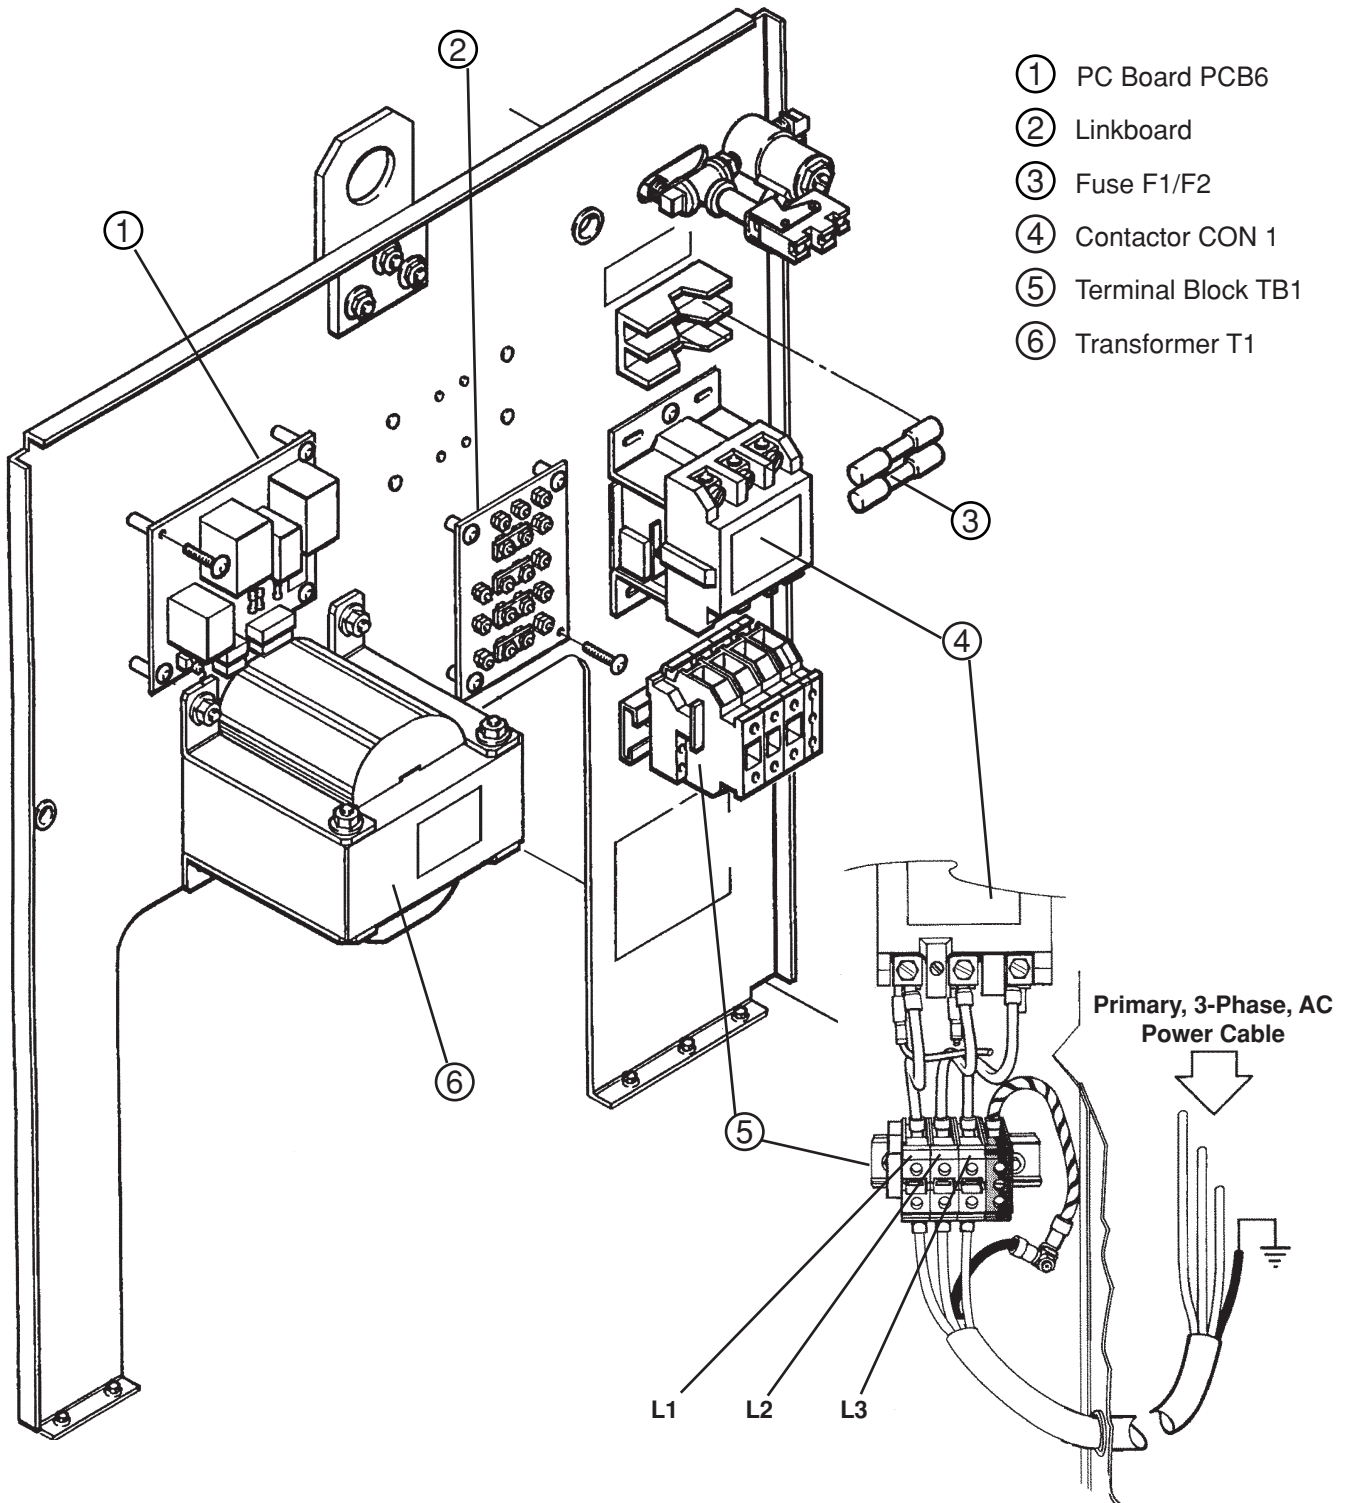
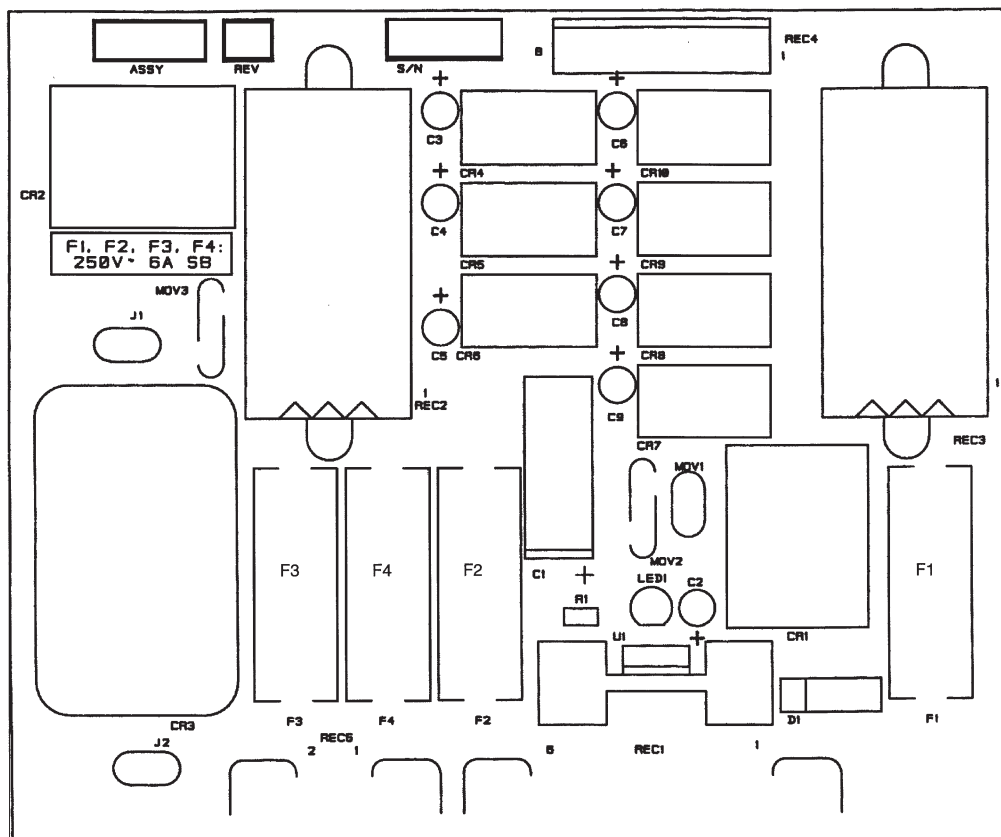

Figure 3-1 MAX200 Initial Checks
Figure 3-2 Power Distribution PCB6
5. For a 200, 208, 240, 480, or 600-volt power supply, measure the voltage at TB1 between L1 (U), L2 (V) and L3 (W). See Figure 3-1, item 5. Refer to wiring diagram supplied with manual, if required. The voltage between any 2 of the 3 points at TB1 should be equal to the supply voltage (200, 208, 240, 480, or 600 VAC). If there is a problem at this point, disconnect main power and check connections, power cable, and fuses or circuit breaker at line disconnect switch. Repair or replace any defective components.
6. Measure voltage at power distribution board PCB6 (Figure 3-1, item 1). Look on the board for fuses F1 through F4 (Figure 3-2). Measurements between each fuse and chassis ground should be as follows:
If voltages are not present, or incorrect at 1 or more of these points, disconnect power and troubleshoot PCB6 fuses and associated pins, connectors and wiring between power distribution board connector REC1 and transformer secondary T1 (Figure 3-1, item 6).
Also, check main power fuses F1 and F2 (Figure 3-1, item 3) and associated wiring and connections between T1 and L1 and L2.
<p>2. The green POWER ON pushbutton switch PB1 is pressed, the POWER ON indicator illuminates, but the fans are not running.</p>	<p>2.1. CR2 on the Power Distribution Board is defective. Check that CR2 switches when POWER ON pushbutton is pressed. See Figure 3-2 for location of CR2. If CR2 is defective, desolder CR2 and replace.</p> <p>2.2. PL31 and REC31 located near the fans (see Figure 4-1 for location of fans) are not seated together securely and/or not getting 120VAC from Power Distribution Board.</p> <ul style="list-style-type: none">• Check pins, connectors and associated wiring for good continuity.• Check for 120VAC at PL31. <p>2.3. PL2 and REC2 on Power Distribution Board (see Figure 3-2 for location of REC2) are not seated well. Check pins, connectors and associated wiring for good continuity. Repair or replace, if necessary.</p>
Check that CR1 switches when POWER ON pushbutton is pressed. See Figure 3-2 for location of CR1. If CR1 is defective, desolder CR1 and replace.
- Check connections and associated wiring from PL23 to REC3 of PCB6. See Figure 4-6 for location of PCB6, and Figure 3-2 for location of REC3.
- Using the 013-2-179 wiring diagram, check pins, wires and connections from PL24 to REC3 of PCB6. See Figure 4-6 for location of PCB6. See Figure 3-2 for location of REC3.
- Using the 013-2-179 wiring diagram, check pins, connections and associated wiring from PL21 to REC5 of PCB6. See Figure 4-4 for location of PCB6. See Figure 3-2 for location of REC5. If 240VAC is not available at REC5, CR3 may be defective. Replace PCB6 if CR3 is defective.